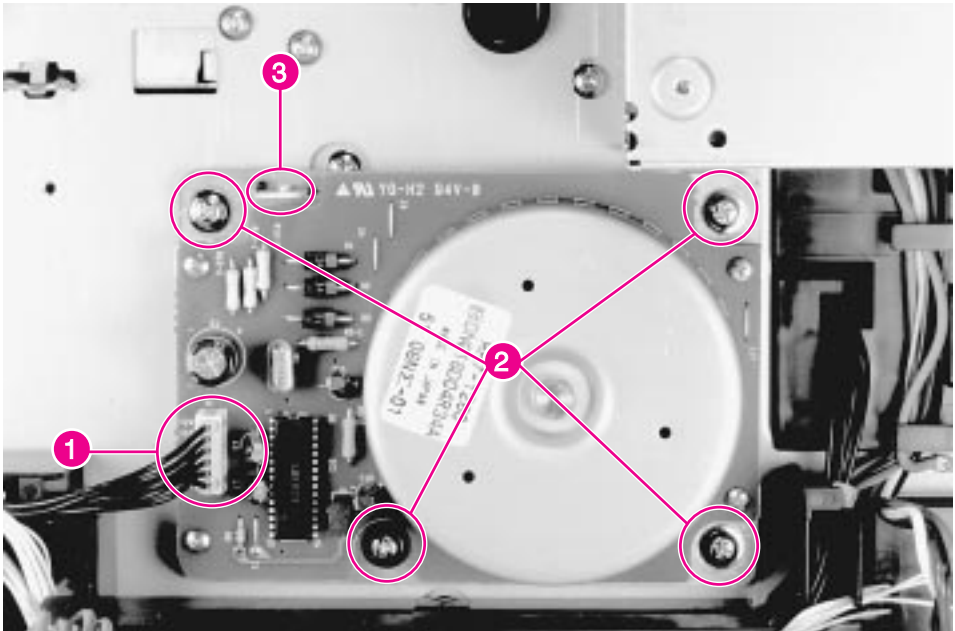

Figure 6-31 Main Motor
- Main Motor (see figure 6-31 on page 194)
- 3 Unplug the connector (figure 6-31, callout 1).
- 4 Remove 4 screws (figure 6-31, callout 2).
Align the Main Motor to the chassis with the locator tab (figure 6-31, callout 3) and the machined ring around the output shaft.